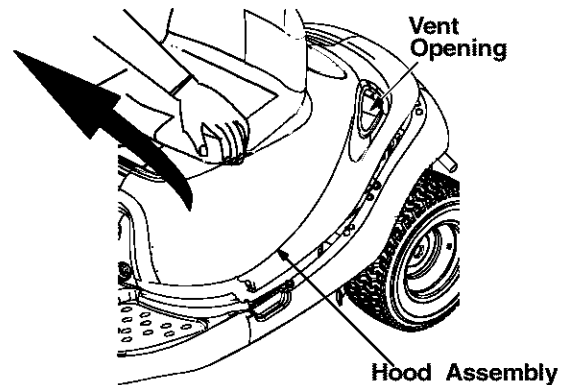

Figure 2
1. To access the battery, lift the hood assembly from the left side of the hood only. Stand on the right side of the unit and pivot the hood assembly towards you until fully opened. See Figure 2 .